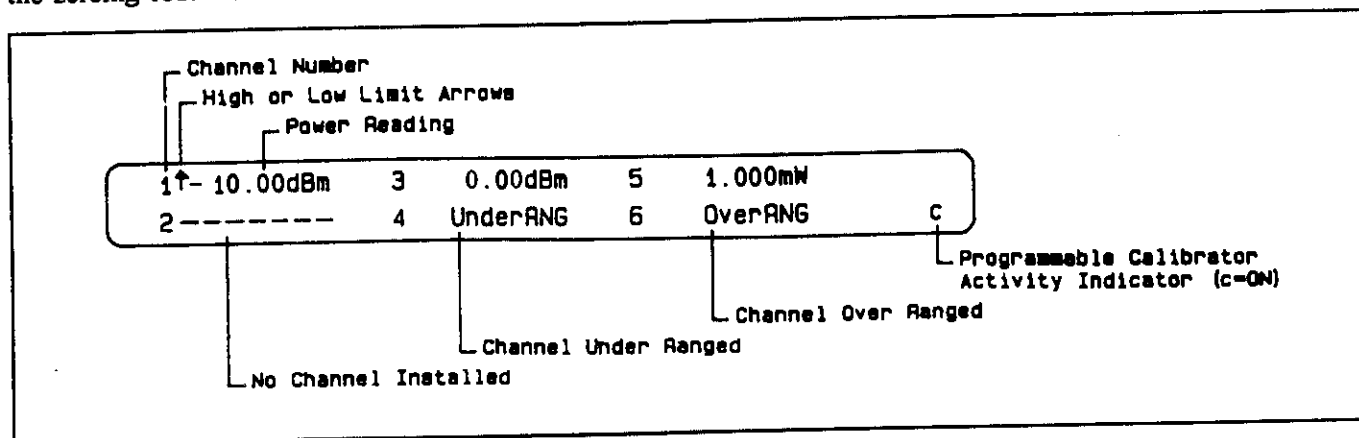

Figure 3-5. Multichannel Display
2. Initialize the instrument as described in paragraph 3-4. This operation does not need to be done every time the instrument is used. Once the instrument has been initialized the setup conditions are stored. Also, the rear panel bit switch can be set up so that the instrument initializes every time power is applied (set position 8 to OPEN). Refer to Figure 3-5 for a Multichannel Operation Display (sample).